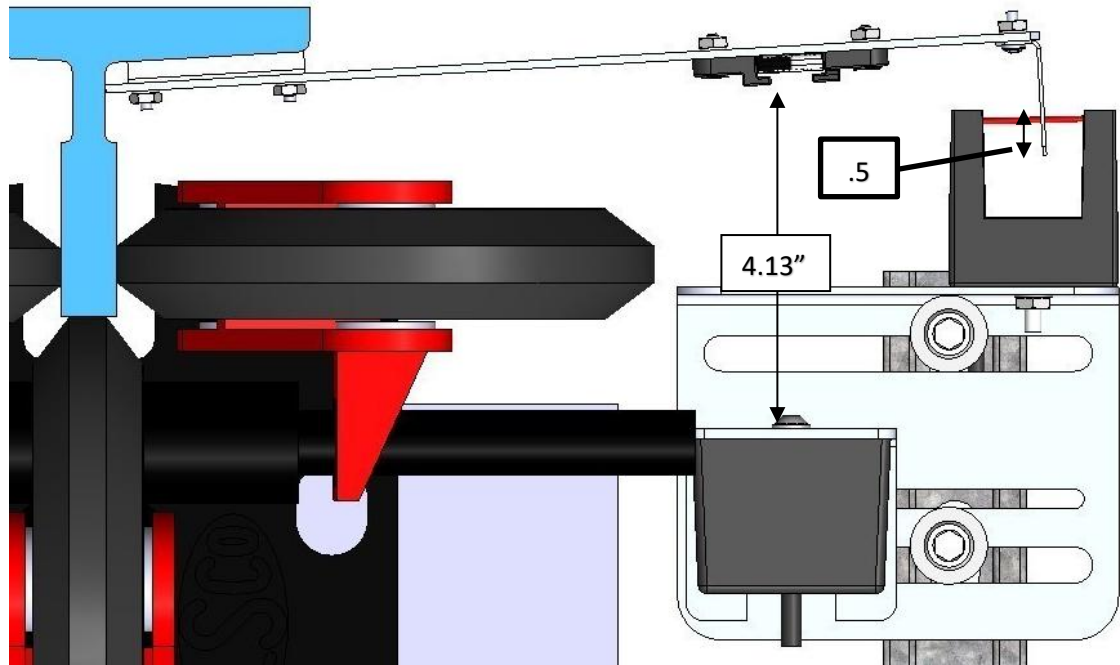

Figure 15: Camera Tuning
- Ensure that the assembly is sitting flush to the rail as show in Figure 15.